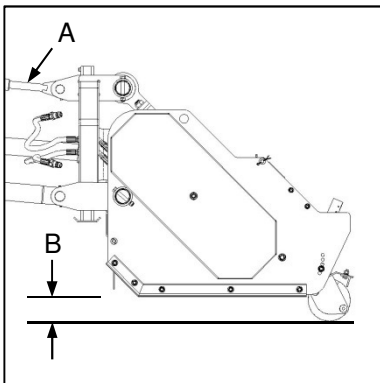

Fig. 1
- ✔ After attaching the implement to the tractor hitch, lower the implement such that the rear roller is in contact with the ground. Adjust the tractor 3-point hitch top link (Fig. 1-A) to level the implement in relation to ground level (Fig. 1-B).
- ✔ Laat sak die implement nadat dit aan die trekker gehaak is totdat die agterste roller aan die grond raak. Verstel die 3-punt-haak se boonste koppelstuk (Fig. 1-A) om die implement gelyk met die grond te kry (Fig. 1-B).